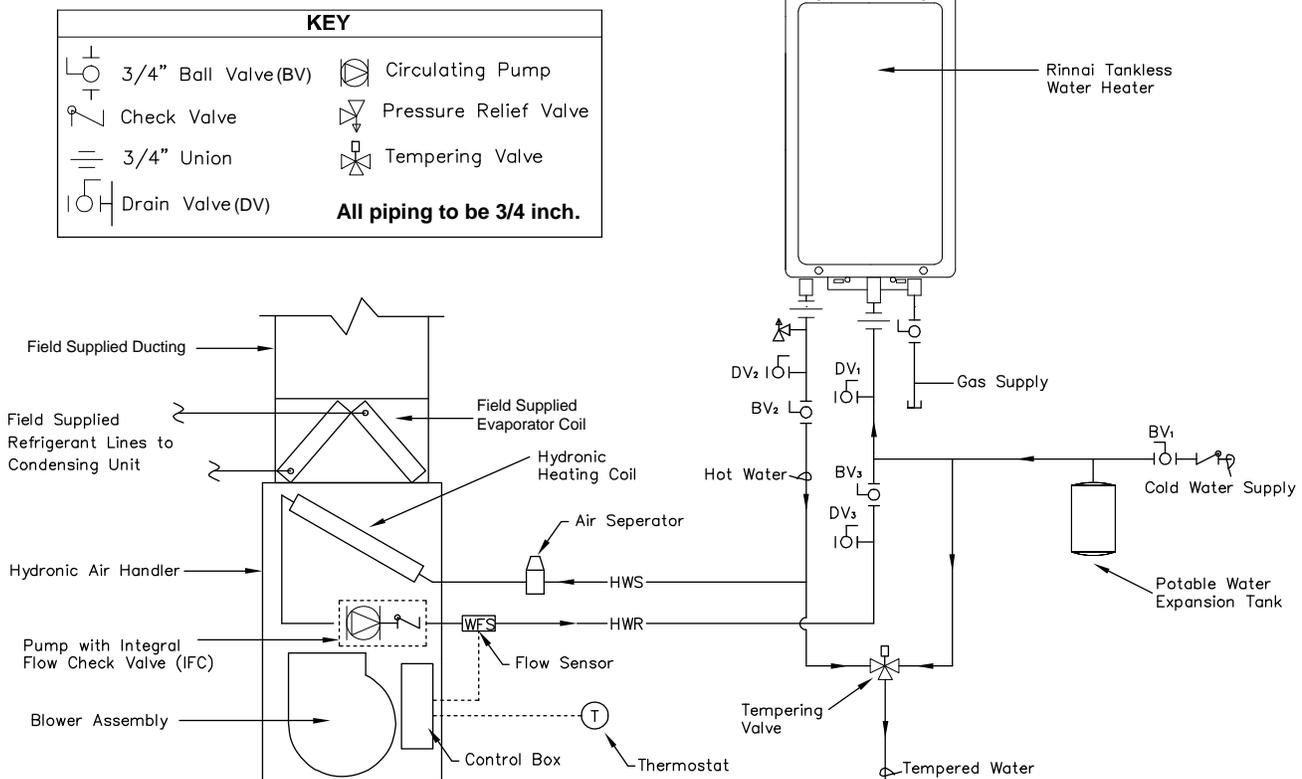

Figure 11 - Typical Piping Arrangement For Direct Space Heating and Domestic Water Supply with Tankless Water Heater. Open Loop
If piping is done in accordance with the recommended schematic diagram shown in Figure 11, the following purge and priming procedure applies.
1. For proper operation of an open loop system with the flow sensor refer to Figures 11 and 14; Note that the jumper (shunt) position on the PCB “point P7” MUST be in the FS position.